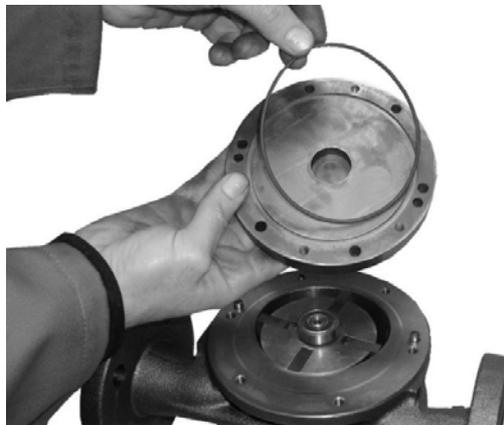

Figure 14
3. Lift the cover and remove the bolts and the o-ring. (Figure 14).